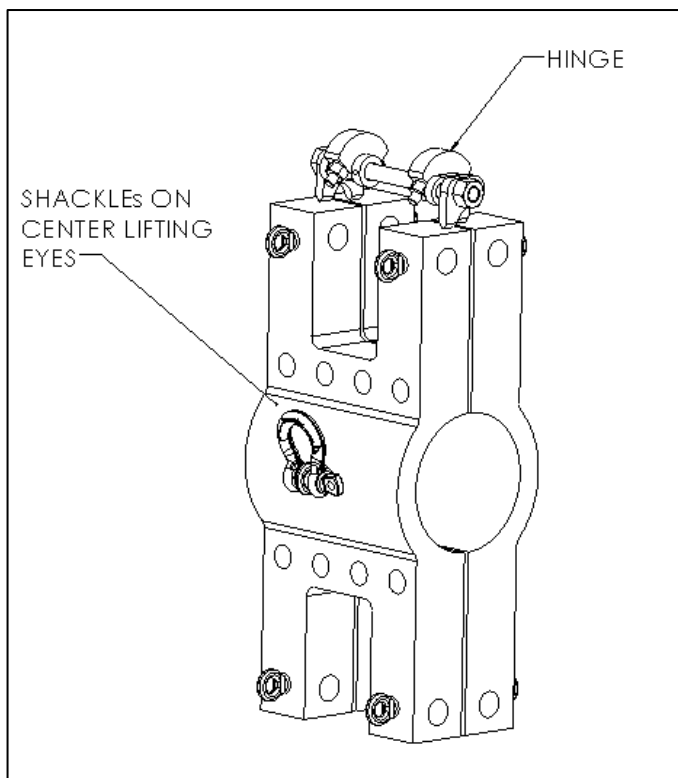
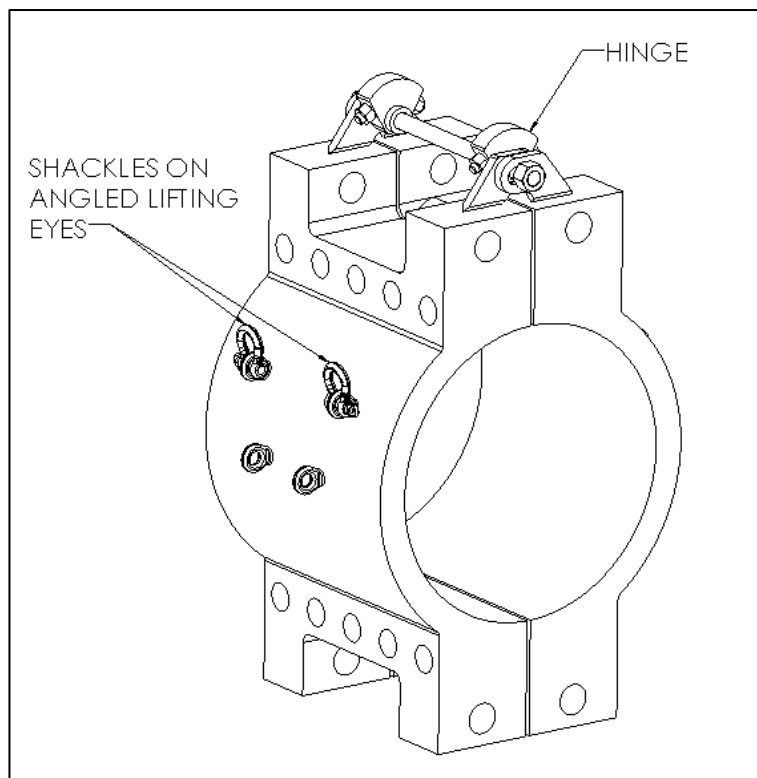

Figure 7
Figure 8
2. Orient the Clamp+Ring and remove all studs and nuts as shown in Figures 7 & 8.
3. Attach shackles to the lifting eyes. Smaller fittings typically only have lifting eyes in the center of the shell as shown in Figure 7. Larger diameter fittings have additional lifting eyes on an angle as shown in Figure 8. For larger diameter fittings, the angled lifting eyes are to be used during installation with hinges.